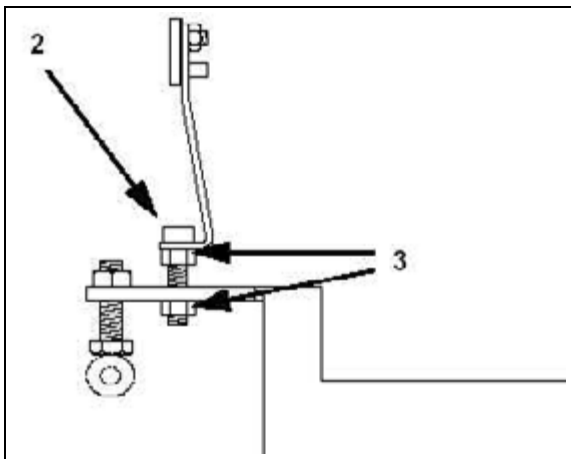

Fig. 61: Wheel brake 2
- Tighten the adjusting screw while the brake is released (Pos. 2/Fig. 61 / p. 70) until the necessary braking force is achieved.
- When the adjustment is complete, the connection piece to the cable is positioned as shown in (Pos. 3/Fig. 61 / p. 70). Fix this position using the lock nut.